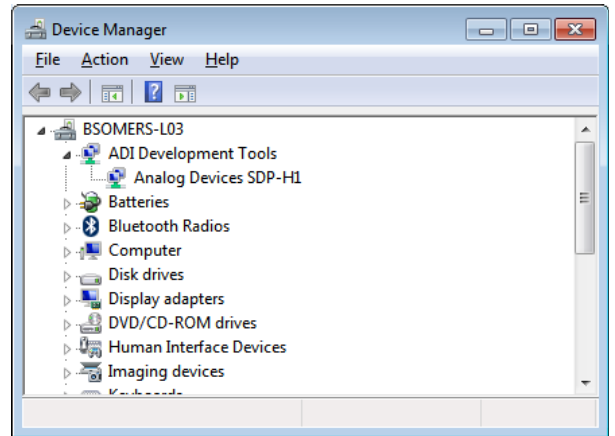

Figure 11. **Device Manager** Window
2. Navigate to the **Device Manager** window on the PC (see Figure 11).
4. The **Computer Management** window opens. From the list labeled **System Tools**, click **Device Manager**. If the SDP-H1 driver is installed and the board is properly connected to the PC, **Analog Devices SDP-H1** is shown in the **ADI Development Tools** list in the **Device Manager** window, as shown in Figure 11.